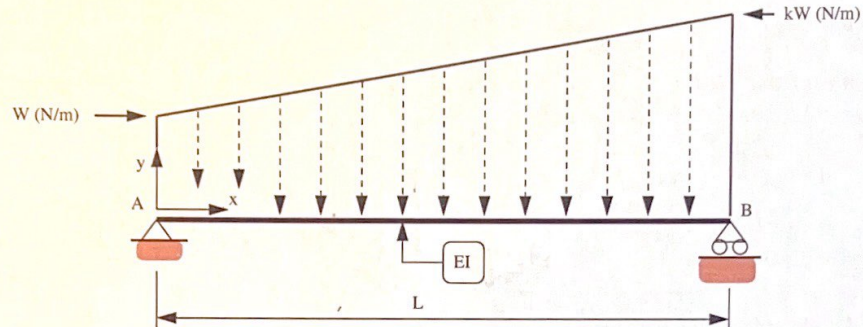

Figure 4: Simply supported beam carrying a trapezoid load.
**OPTIONAL: Bending Moment and Curvature in an Elastic Beam.** Figure 4 is a front elevation view of a simply supported beam that carries a trapezoid load.